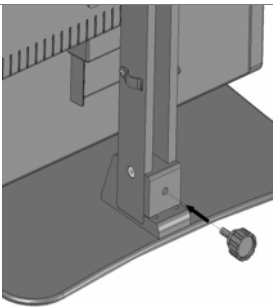

Figure 4. Knob connecting the base plate and the mounting bracket.
1. Remove the large black base plate with attached mounting bracket from the shipping box and place it on a table or workbench. Unscrew the large knob from the base plate mount. (See Figure 4.)